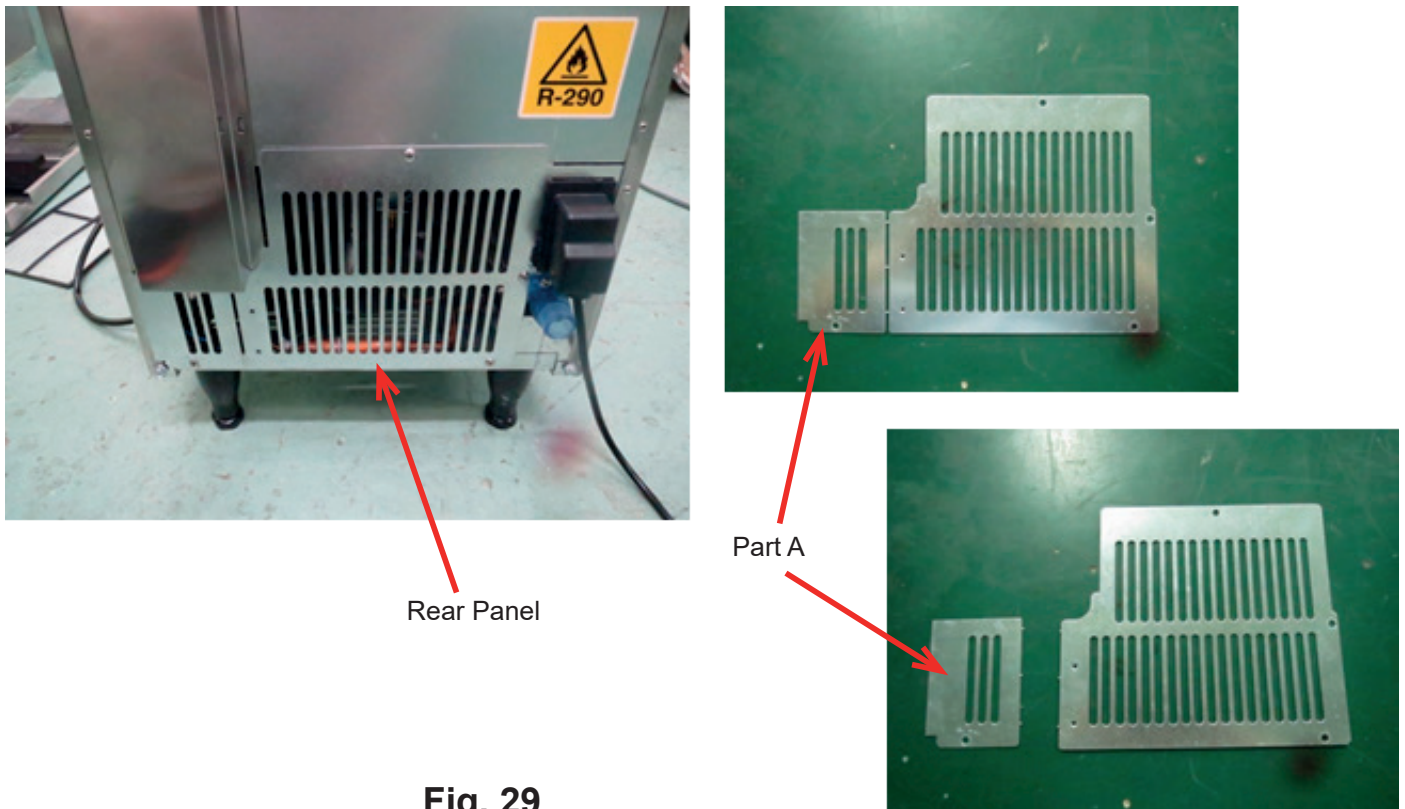

Fig. 29
13) Remove the rear panel and detach the part A as shown in Fig. 29.